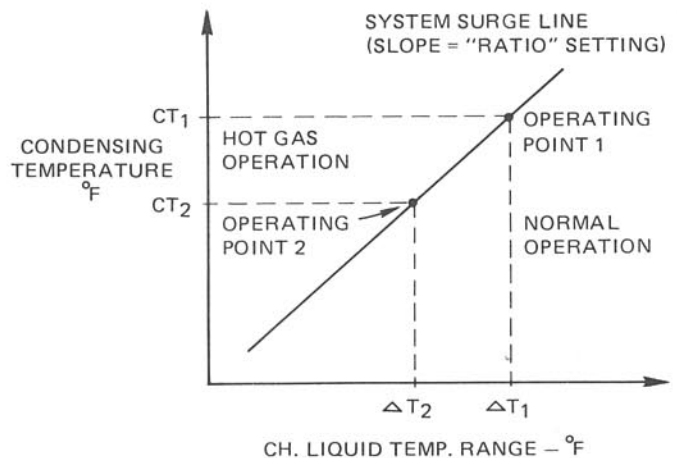

FIG. 4 — SYSTEM OPERATION
3. Subtract the leaving chilled liquid temperature from the entering chilled liquid temperature. The difference (corresponding to ΔT_1 in Fig 4) should be used as the setting for the “Ch. Liquid Temp. Range” control.
4. Use the condensing temperature reading as the "Condensing Temp." setting on the HG-1 control. This corresponds to CT₁ in Fig. 4.
6. Compute the difference between the measured entering and leaving chilled liquid temperatures. This corresponds to ΔT_2 in Fig. 4.